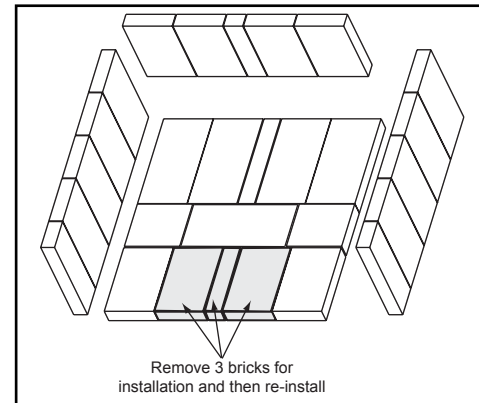

Figure 17.1
2. Remove the 3 bricks in the front most part of the firebox (**Figure 17.1**).
1. Replace front 3 bricks that were removed in step 1 (**Figure 17.1 on page 17**).
2. Remove the 3 bricks in the front most part of the firebox (Figure 17.1 on page 17).